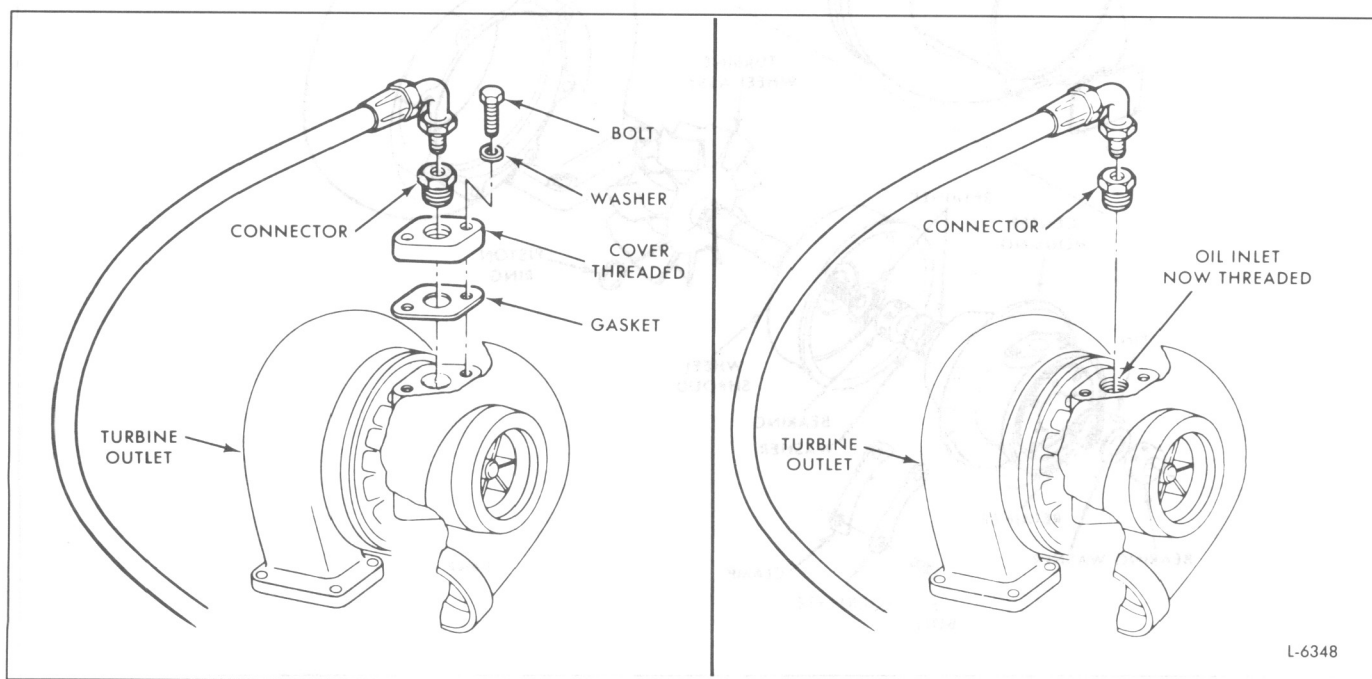

Fig. 13 – Former and Current Lube Oil Supply Connections
**NOTICE:** The lube oil supply connector formerly installed in the plate is now assembled directly to the turbocharger center housing. The oil inlet of current TV turbochargers is being threaded by the manufacturer (Fig.13).